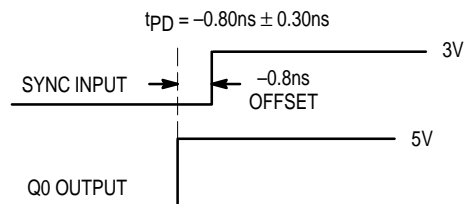

Figure 2. Depiction of the Fixed SYNC to Q0 Offset (t_{PD}) Which Is Present When a 1MΩ Resistor Is Tied to V_{CC} or Ground
- A 1MΩ resistor tied to either Analog VCC or Analog GND, as shown in Figure 2, is required to ensure no jitter is present on the MC88921 outputs. This technique causes a phase offset between the SYNC input and the Q0 output, measured at the pins. The t_{PD} spec describes how this offset varies with process, temperature, and voltage. The specs were arrived at by measuring the phase relationship for the 14 lots described in note 1 while the part was in phase-locked operation. The actual measurements were made with a 10MHz SYNC input (1.0ns edge rate from 0.8V to 2.0V). The phase measurements were made at 1.5V. See Figure 2 for a graphical description.